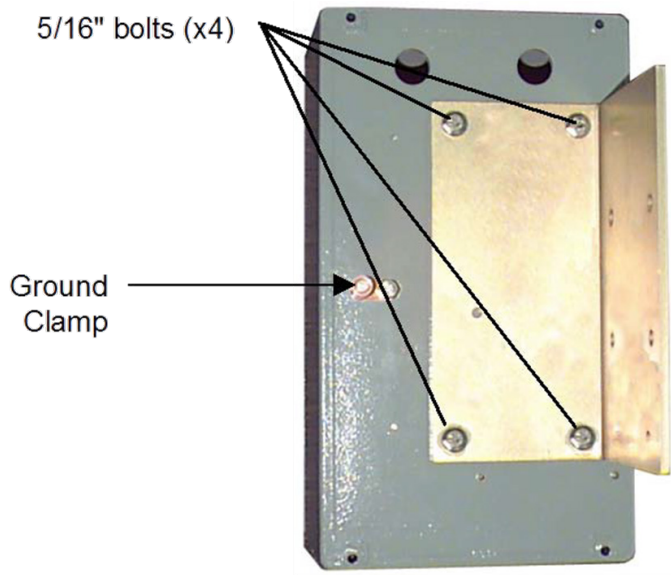

Figure 1. Mounting Bracket Installation
2. (See Figure 1.). The mounting bracket attaches to the underside of the 6500 enclosure with four bolts. Position the bracket against the underside of the enclosure so that the mounting holes in the bracket and enclosure align.
12. Fasten a ground wire between the ground cable installed during site preparation and the ground clamp on the underside of the enclosure (see Figure 1).